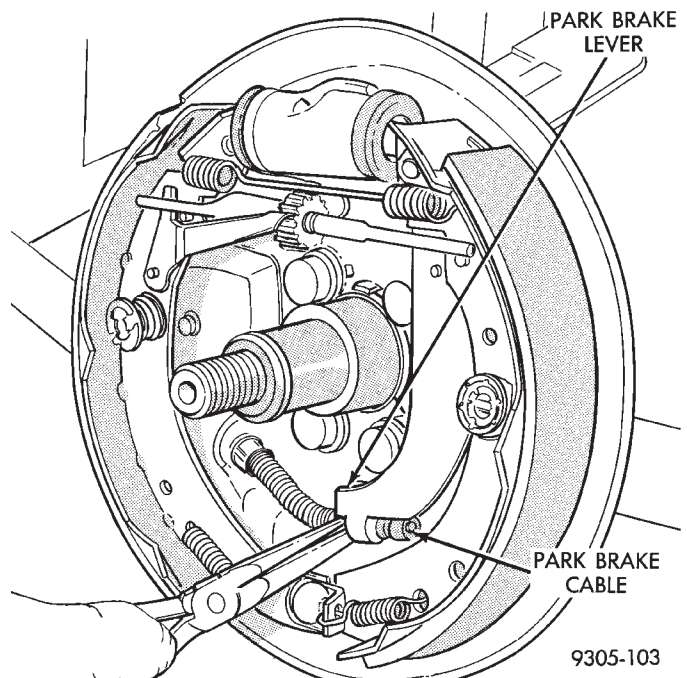

Fig. 69 Remove / Install Parking Brake Cable
(5) Disconnect parking brake cable from parking brake lever (Fig. 69).
- (6) Install park brake cable on park brake lever of trailing brake shoe (Fig. 69).